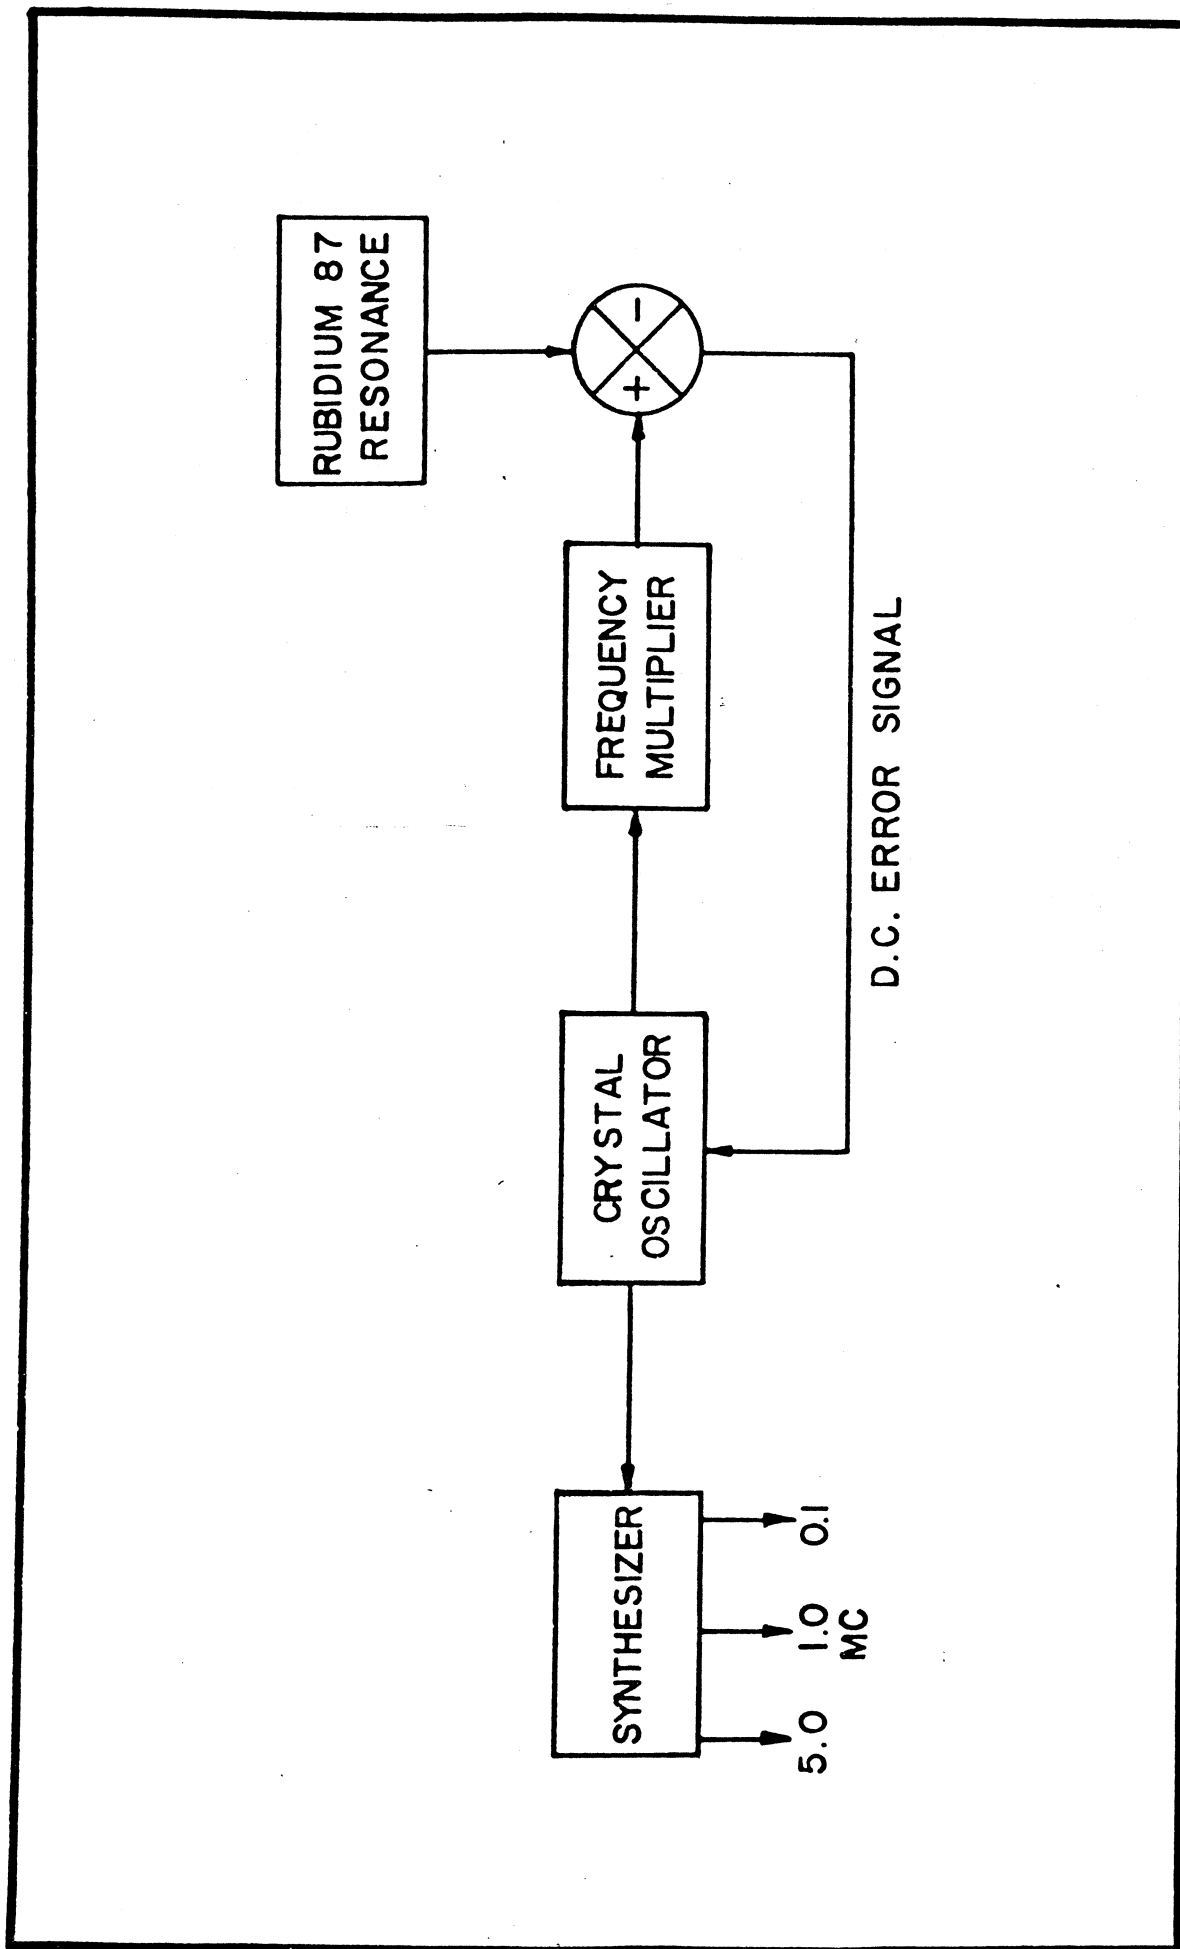

FIG. 4-1: Illustration of the AFC Loop Concept.
4.1 Introduction. The Model 304-SC Rubidium Frequency Standard derives its long term stability from the unvarying frequency of an absorption resonance in the element rubidium. This resonance is used as the reference in an AFC loop having as its controlled element a quartz crystal oscillator. A simplified block diagram illustrating this AFC concept is shown in Figure 4-1.